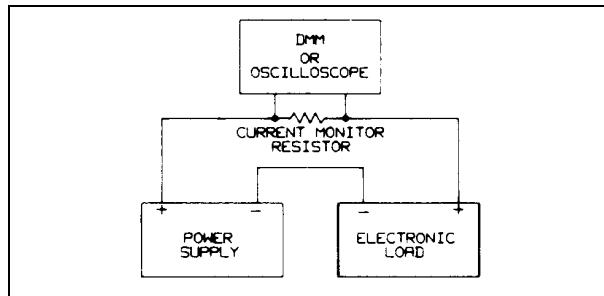

Figure 2-1. Test Setup A
Table 2-1 lists the test equipment required to perform the tests in this chapter. Test setups for the tests are shown in Figures 2-1 through 2-3. Make sure the sense switch on the rear of the load is set to the LCL position since local sensing is used in all of the test setups. Use adequate wire gauge when making connections (see Chapter 3 in the Operating Manual).
- Connect the Electronic Load, power supply (Agilent 6031A/6032A or equivalent), DMM, and the 0.010 ohm (6060B) or 0.100 ohm (6063B) current monitor resistor as shown in Figure 2-1.
- a. Connect the Electronic Load, power supply (Agilent 6032A/6035A or equivalent), and the 0.100 ohm current monitor resistor as shown in Figure 2-1. Use the DMM to measure the voltage across the monitor resistor and across the Electronic Load's input terminals.